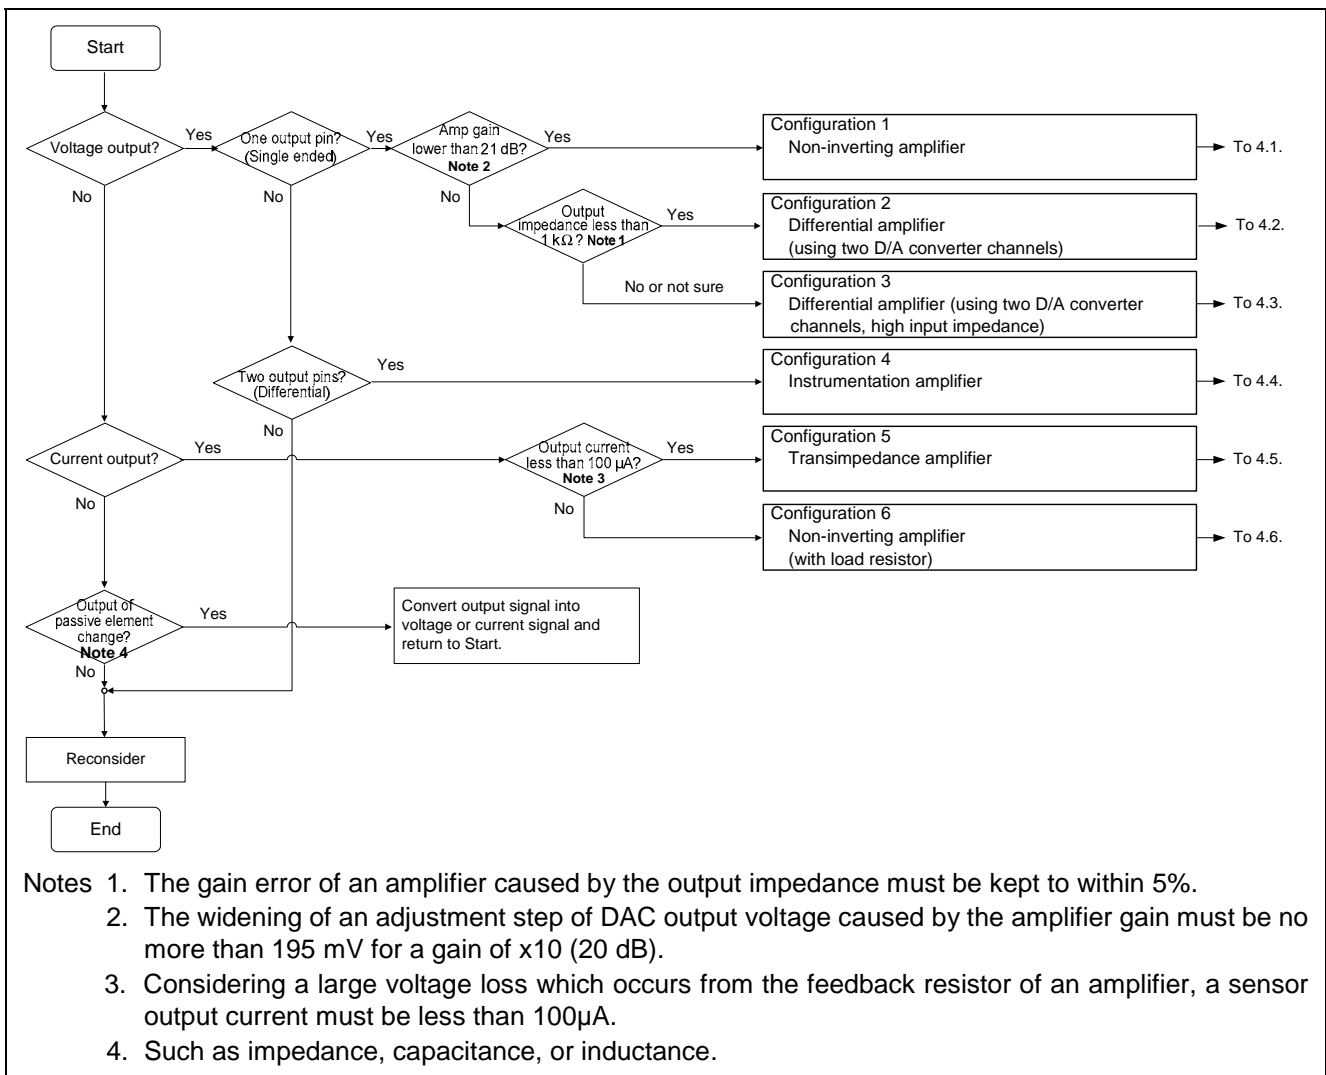

Figure 3-1 Selecting a Configurable Amplifier
- (4) Determine the required amplifier configuration by using the flowchart shown in Figure 3-1.
- (5) Consider the connection between the sensor output pins and the Smart Analog IC input pins, and connect the sensor to the evaluation board.
- (6) Design the configurable amplifier configuration and required analog parameters by using the GUI software Smart Analog Easy Starter and evaluate the sensor.
The flowchart for selecting the configurable amplifier configuration is shown in Figure 3-1 below. This flowchart is one of the examples to select the amplifier configuration based on the specifications and characteristics of the sensor used. Note that the ideal configuration of the configurable amplifiers in Smart Analog IC 500 will differ depending on factors such as the output range, accuracy (current value, etc.), and equivalent circuits of the sensor, even for sensors that output the same type of signal (i.e., current output).
This section describes the features of each of the configurations shown in Figure 3-1.